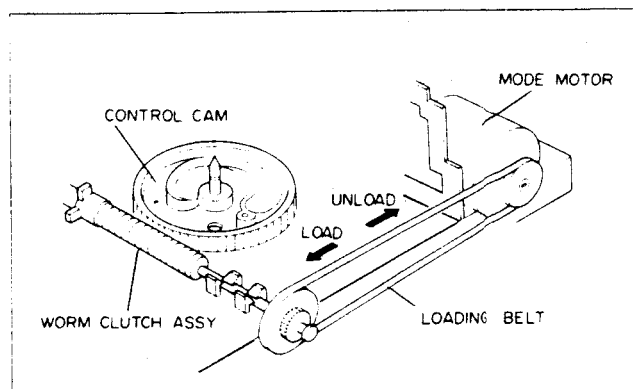

Fig. 2-1-1
- 2) Turn the mode motor belt by hand in the unloading direction to return the loading posts to the stop position, refer Fig. 2-1-1.